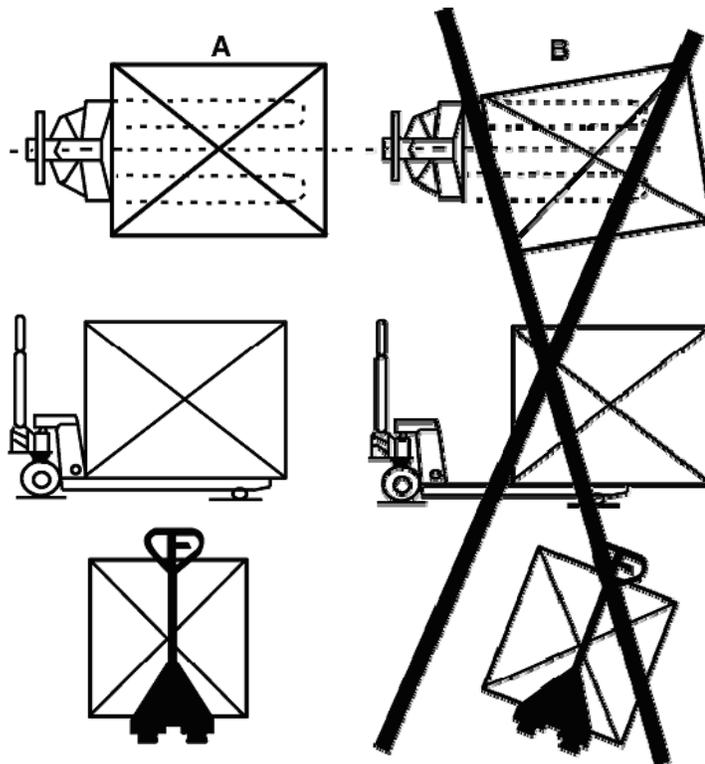

Figure 4
- 6.7 Do not load goods like fig. 4/B. Center loads on the pallet truck.